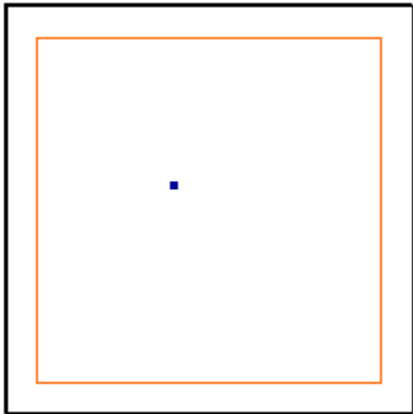

Figure 18: Offset construction rectangle.
7. Click an edge of the rectangle and then move the cursor inside the rectangle. Click again to offset the rectangle loop as shown in Figure 18.